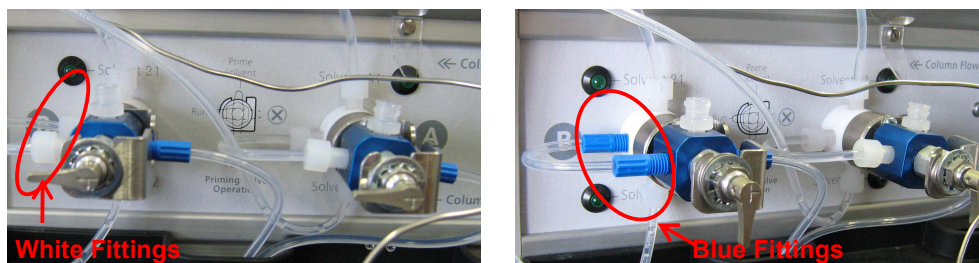

Figure 9: SUM Valve connector fittings (White is left picture, Blue is right picture)
10. Once the tubes have been bent to the shape shown above. The old white fittings on the valve connection can be replaced with the new blue fittings (*Figure 9*).